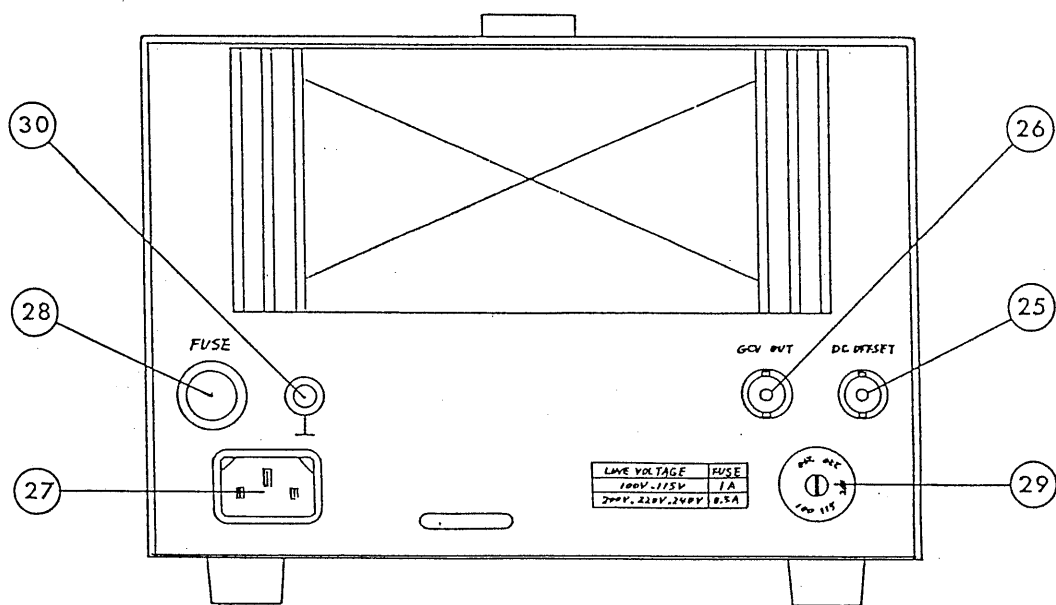

Figure 3-2. Rear Panel
3.2 Description of Rear Panel Items (See Figure 3-2.)
②⑤ DC OFFSET [10k Ω] input terminal (BNC type):